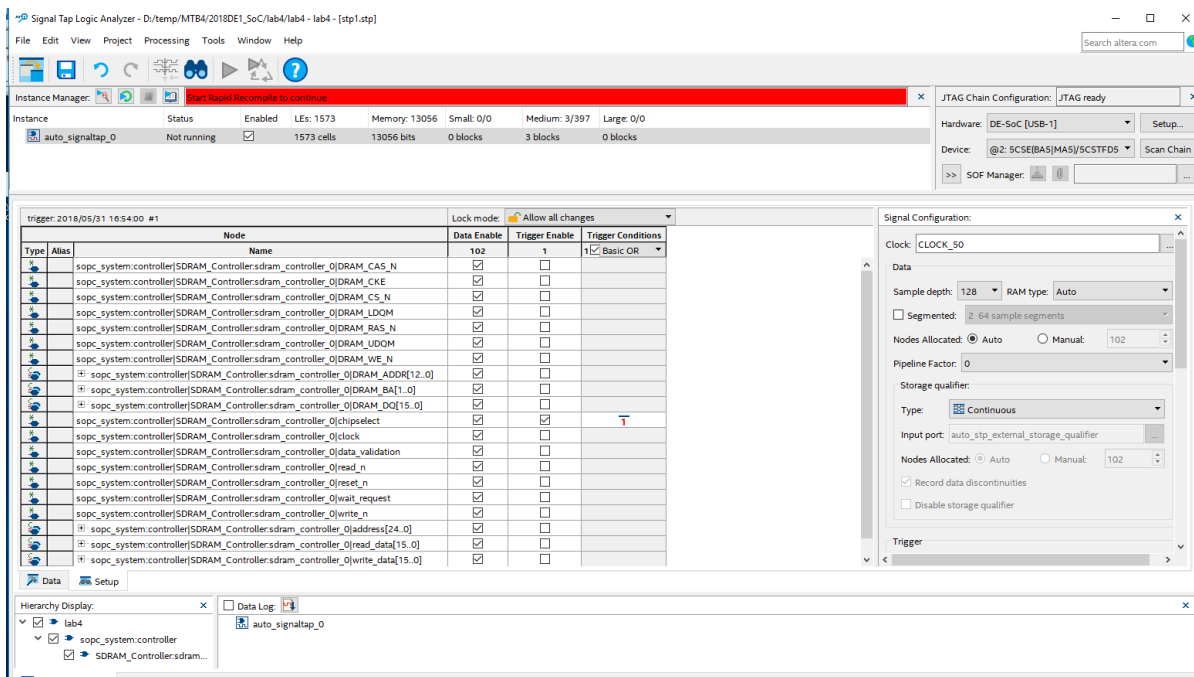

Figure 7: A possible setup for Signal Tap Logic Analyzer
3. Select **CLOCK\_50** to be the clock for the system, as you learned in the tutorial. Set the analyzer to trigger only on high value of the chipselct signal. (A possible setup is shown in Figure 7.)